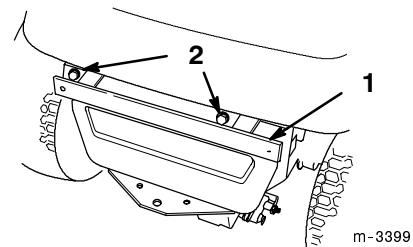

Figure 1
1. Install the upper mounting bracket to the rear of the tractor using two 5/16 x 1" bolts and 5/16" locknuts (Fig. 1). Use the left most set of holes in the bracket when looking at the rear of the tractor.